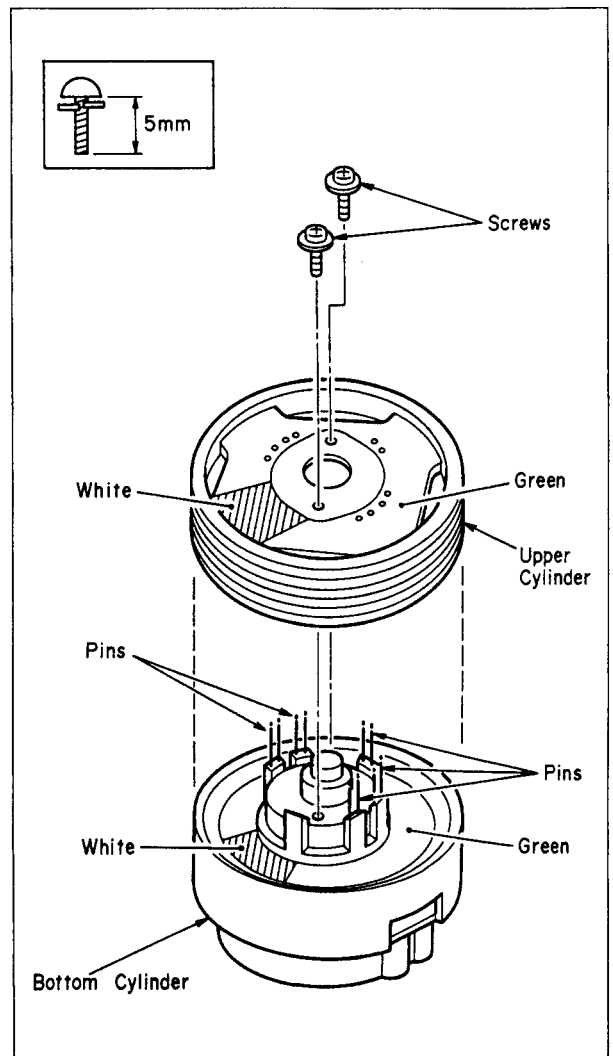

Fig. 18
(1) REMOVING THE UPPER CYLINDER UNIT
- Remove the 2 screws as shown in Fig. 18.